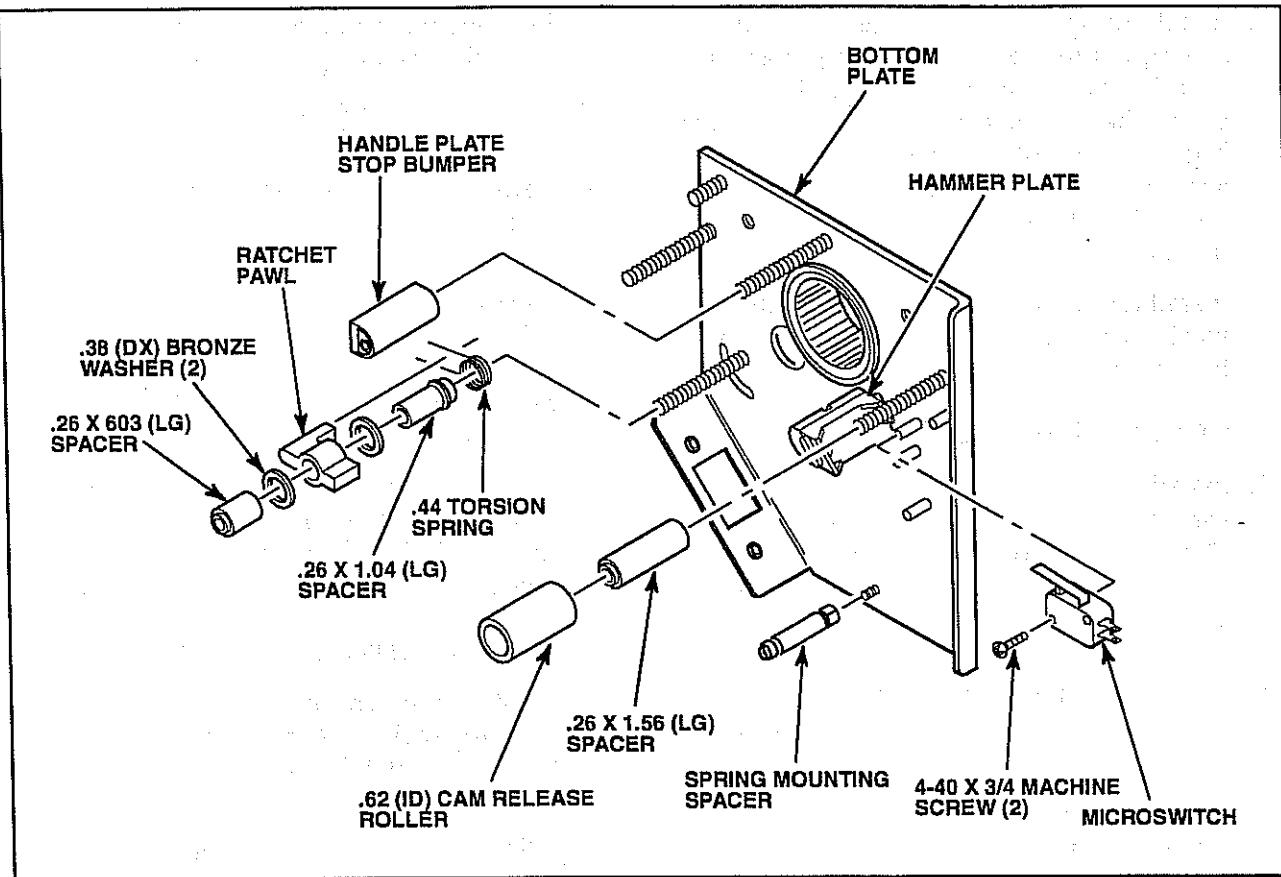

Figure 5-40. Ratchet Torsion Spring Placement.
3. Install the ratchet torsion spring onto the lower left mounting post so that both ends of the spring fit on each side of the small threaded post. (See Figure 5-40, Ratchet Torsion Spring Placement.)